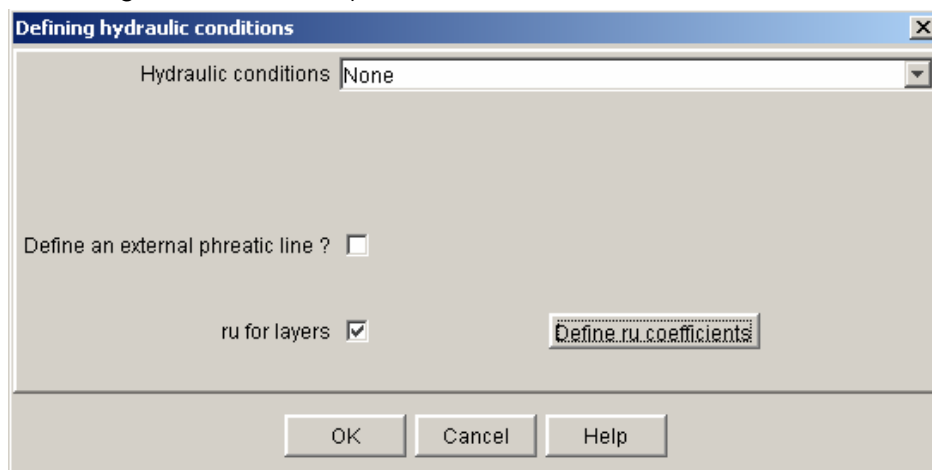

Figure 89: definition of ru coefficients for soil layers
- ru coefficients for soil layers (refer to the technical manual for the meaning of this parameter): this option can be used alone (Figure 89, hydraulic conditions: “none”), or in addition to one of the types of hydraulic conditions described before.